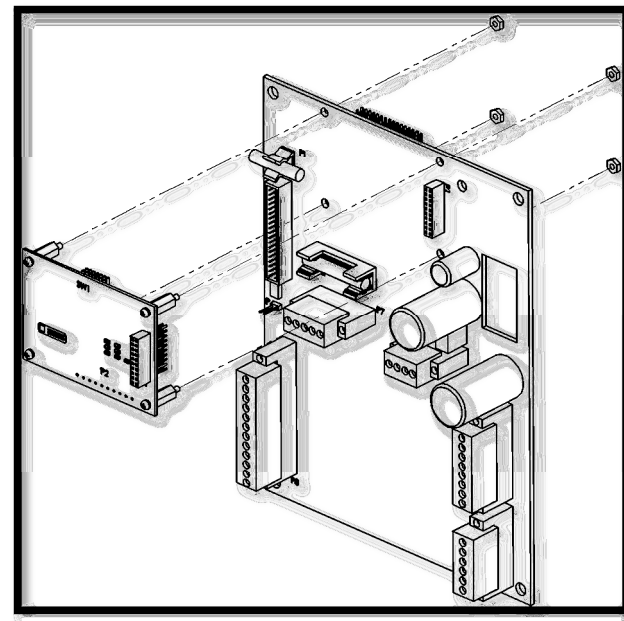

Figure 10
3. Carefully install the Modbus Card onto the Terminal Card such that the long pinned header on the Modbus Card mates with the socket P1 on the Terminal Card. Be careful not to bend any pins while doing this. Continue to apply pressure to the Modbus Card until the 4 standoffs fit into the holes in the PCBA. See Figure 10.
4. On the back side of the Terminal Card, install 4 hex nuts onto the standoffs to hold the Modbus Card in place. Tighten to 4 in\*lbs. Do not over tighten or the standoffs may break. See Figure 10.